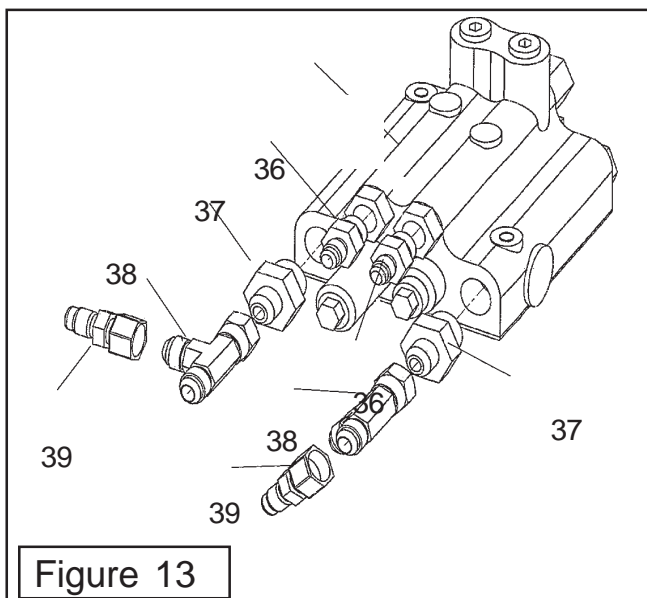

Figure 13
The two spool valve assembly shown (See Figure 13) shows the components that are replaceable in the two spool control valve. Study the drawings, the torque specification if any are listed for figure 12. The fittings are shown in figure 13. When working on valve always clean the exterior of the valve and hoses before disconnecting them. After disconnecting the hoses cap them with clean caps to keep contamination out of hydraulic system. When disassembling the valve make certain the OD of it and all work areas are clean, do not use dirty tools or rags that will leave lint. Only lint free towels (paper or suitable type) can be used to wipe down the hydraulic system. If any components need to be held in the valve body during assembly petroleum jelly can be used. DO NOT Exceed the recommended torque setting listed in figure 12. When removing plug item 11 watch the qty of washers that are removed, this amount is what should be started with when reassembling plug.